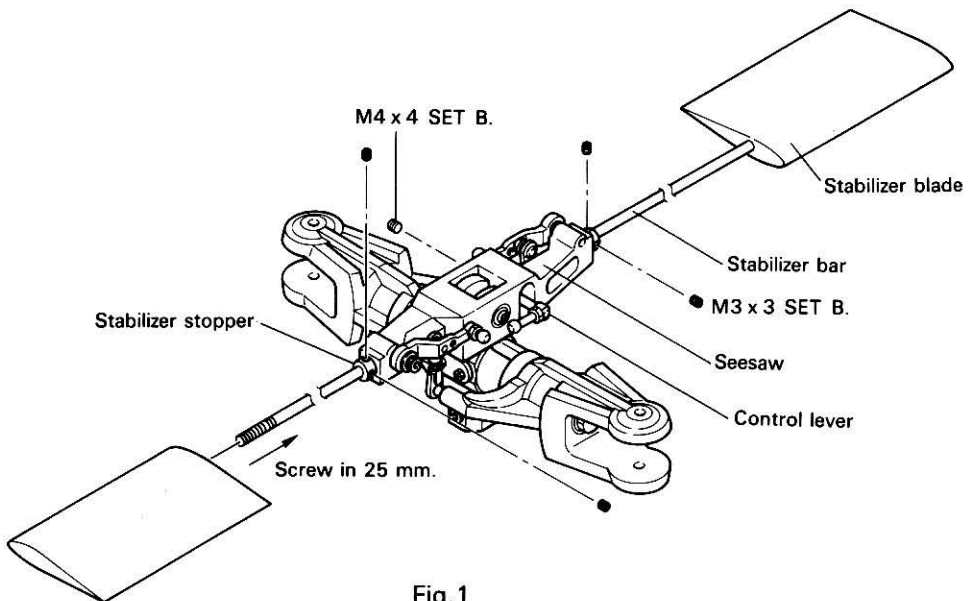

Fig. 1
- 1 Install the control levers into the seesaws and insert stabilizer bars and then install stabilizer stoppers through the stabilizer bars as shown in Fig. 1. At this time, each set bolt is to be temporarily tightened.